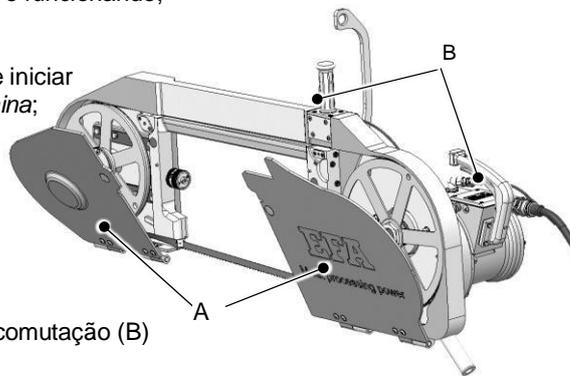

Fig. 6.1 – Ligar a serra de fita (bimanual)
**EFA SB 295 E e EFA SB 327 E** – consulte a Fig. 6.1 –